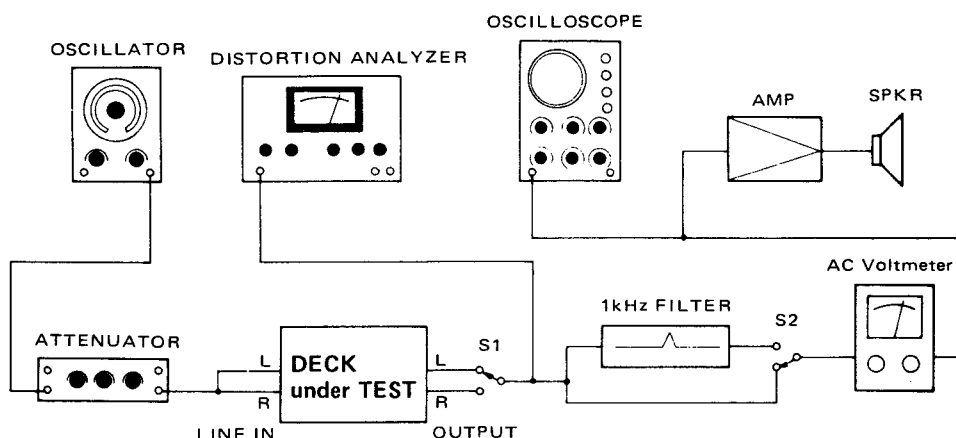

Fig. 5-1 Basic test setup
16. Erase efficiency	<ul style="list-style-type: none"><li>• Connection is same as in Fig. 5-1, but engage 1-kHz filter.</li><li>• Record a 1-kHz signal in FWD (REV) direction. Rewind (wind) tape to midpoint of recorded portion. Record a "no signal" portion in FWD (REV) direction. Find the difference between the 1-kHz portion and the "no-signal" portion.</li></ul>
17. REC MUTE function	<ul style="list-style-type: none"><li>• Connection: Fig. 5-1, but engage 1-kHz filter.</li><li>• Record a 1-kHz signal for several seconds in the FWD (REV) direction. Then push the REC MUTE button to provide four seconds of blank space on the tape (At this time, make sure the REC button indicator lamp flashes on and off). After the deck automatically goes into the record-pause mode, rewind (wind) and play the tape in FWD (REV) direction. Find the difference between the 1-kHz portion and the "no signal" portion.</li></ul>
18. Channel separation	<ul style="list-style-type: none"><li>• Connection: Fig. 5-1, but do not connect LINE IN (R), and engage 1-kHz filter.</li><li>• Set the deck to FWD (REV) record mode. Find the difference between the 1-kHz recorded portion (L-ch) and the "no signal" portion (R-ch).</li></ul>
19. Adjacent track crosstalk	<ul style="list-style-type: none"><li>• Connection: Fig. 5-1, but do not connect LINE IN (L) and OUTPUT (L).</li><li>• Record a 125-Hz signal on the R-ch in FWD (REV) direction and note the output level. Invert the tape and play the R-ch track in the FWD (REV) direction. Check the leakage level against the output reference of the previously recorded portion.</li></ul>